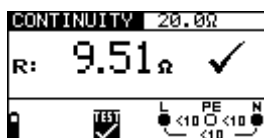

Figure 5.12: Example of Continuity measurement result
Step 4 Connect test cable to the item under test. Follow the connection diagram shown in figures 5.12 and 5.13 to perform **Low Ω resistance** measurement. Use the **Help** function if necessary.